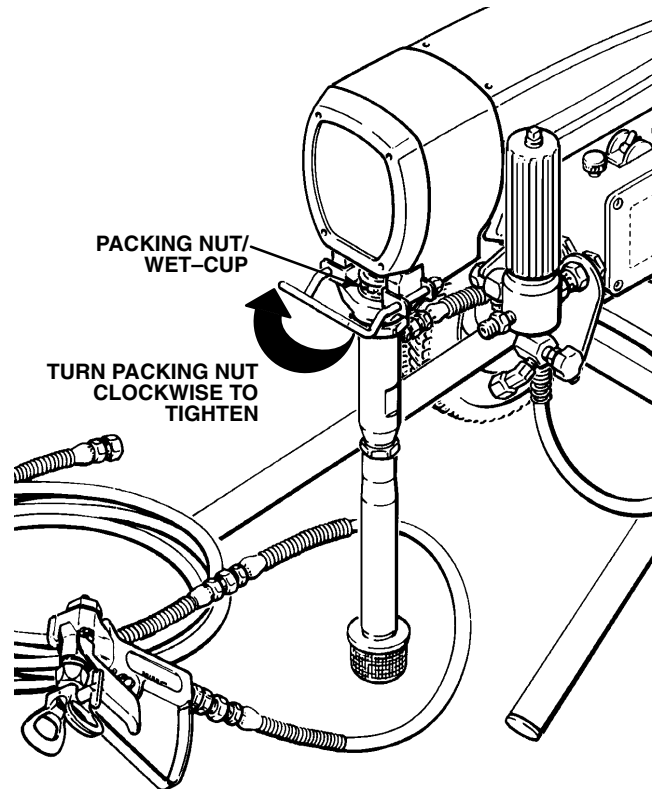

Fig 13-1
2. **Tighten the packing nut just enough to stop leakage.** Over tightening causes binding and excessive packing wear. Use a round punch or brass rod and light hammer to adjust the nut. *Refer to Fig 13-1.*